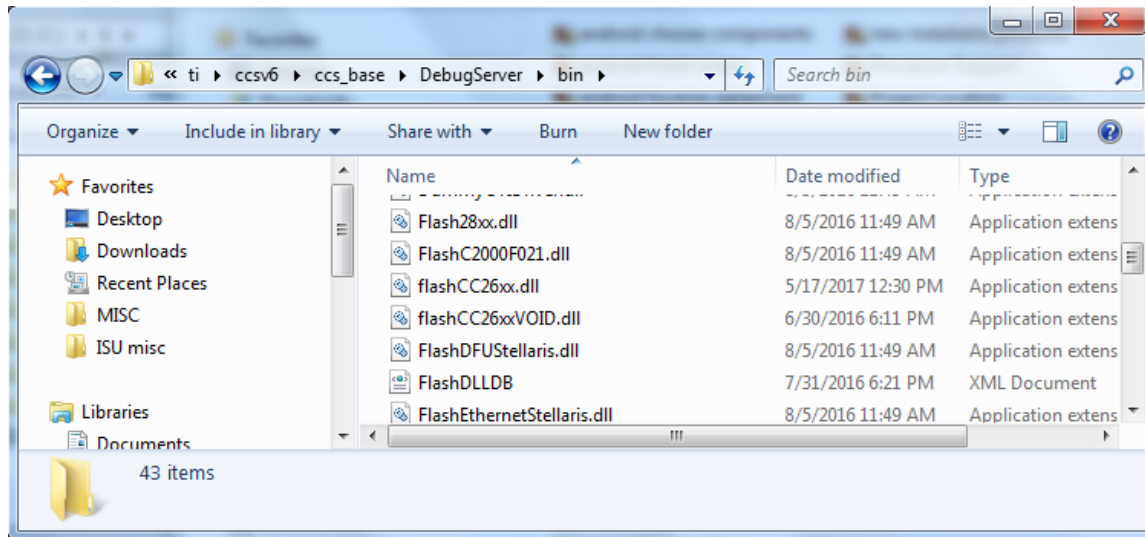

Figure 21, Updated <CCS62 INSTALL DIR>\ccsv6\ccs\_base\DebugServer\bin directory.
- f. The directory should now resemble Figure 21.